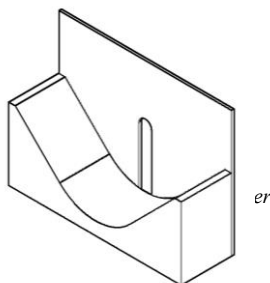

Fig. 3: IGT V-form Delamination viewer
- 3.2. Assess the test strip and mark the point where delamination begins. See fig. 3.